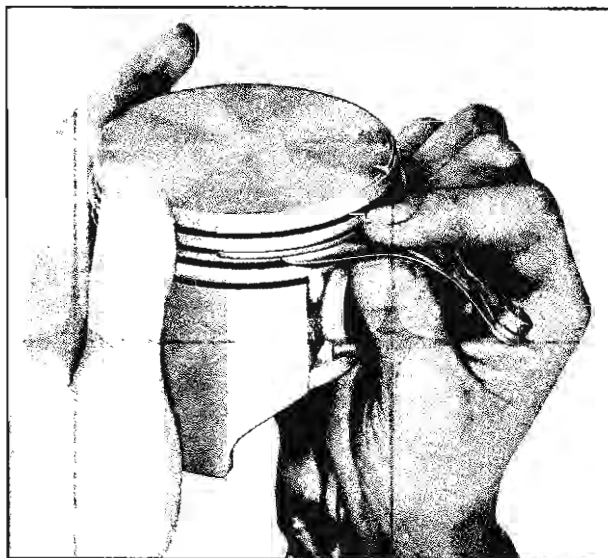

Fig. 94—Rolling Ring in Groove
8. Slip the outer surface of the compression ring into the piston ring groove and roll the ring entirely around the groove to make sure that the ring is free and does not bind in the groove at any point (fig. 94). If binding occurs, the cause should be determined and removed by carefully dressing with a fine cut file. However, if the binding is caused by a distorted ring, install a new ring.